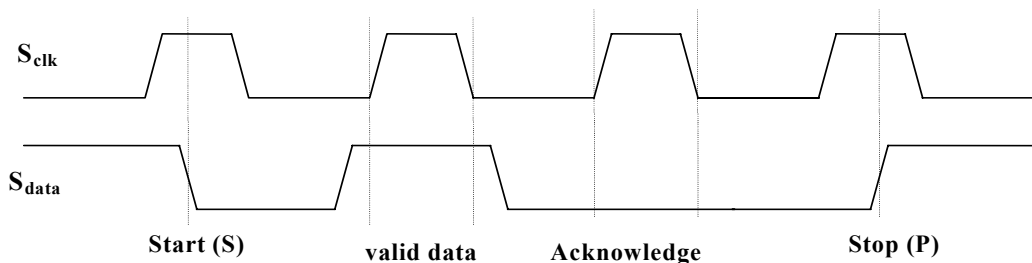

Figure 2. Serial Interface Specifications
Figure 2 shows the basic transmission specification. To begin and end a transmission, the master device generates a start signal (S) and a stop signal (P). Start (S) is defined as switching the S_{data} from HIGH to LOW while the S_{clk} is at HIGH. Similarly, stop (P) is defined as switching the S_{data} from LOW to HIGH while holding the S_{clk} HIGH. Between these two signals, data on S_{data} is synchronous with the clock on the S_{clk} .
Figure 2 shows the serial interface transfer format used with the CY2XP306. Two dummy bytes must be transferred before the first data byte. The CY2XP306 has only three bytes of latches to store information, and the third byte of data is reserved. Extra data will be ignored.